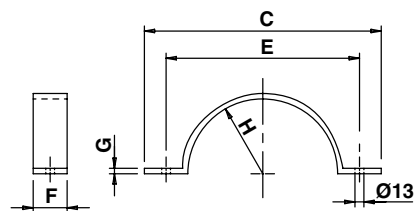

Fig.2 - Contra bracket
- Tank System can be mounted in any position. We can supply standard mounting brackets with each tank by specifying suffix MB behind the catalogue number (see figure 2 and 3)